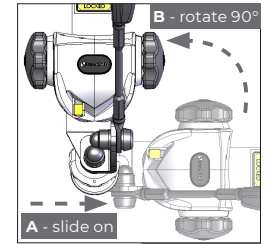

Figure 12
2. Install each front retractor cleat onto a front Solo anchor by aligning the open mouth of the cleat and the protrusion, (Fig. 11C), to the slot on the floor anchor. Slide the cleat fully home (allowing the keyway within the cleat to guide into its home position, Fig. 11A & B) and rotate the cleat through 90° to align the retractor with the wheelchair frame, (Fig. 12).